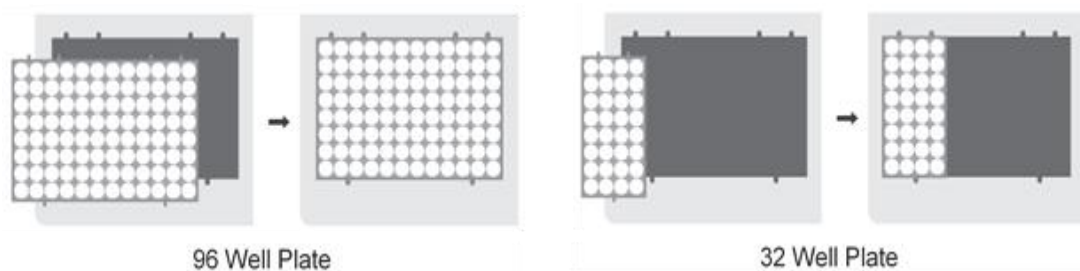

Figure 4: Positioning of the 96 or 32 wells plates on the plate loader
- Place the extraction plate on the plate loader. Note the plastic plates in their positions (Figure 4).